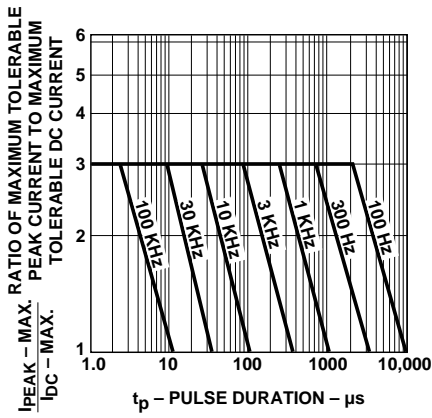

Figure 2. Maximum Tolerable Peak Current vs. Pulse Duration.
1. See Figure 2 to establish pulsed operating conditions.